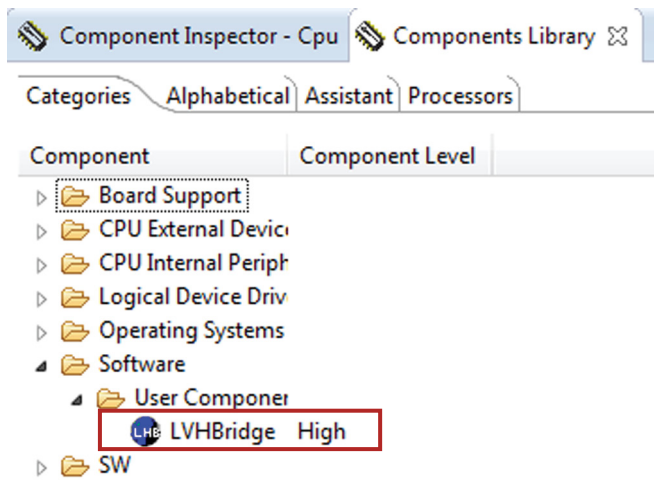

Figure 7. LVHBridge Component Location after CodeWarrior Import
3. If the import is successful, the LVHBridge component appears in Components Library -> SW -> User Component (see Figure 7). Note that the component **ChannelAllocator** is not visible, because it is not designed to be users accessible.